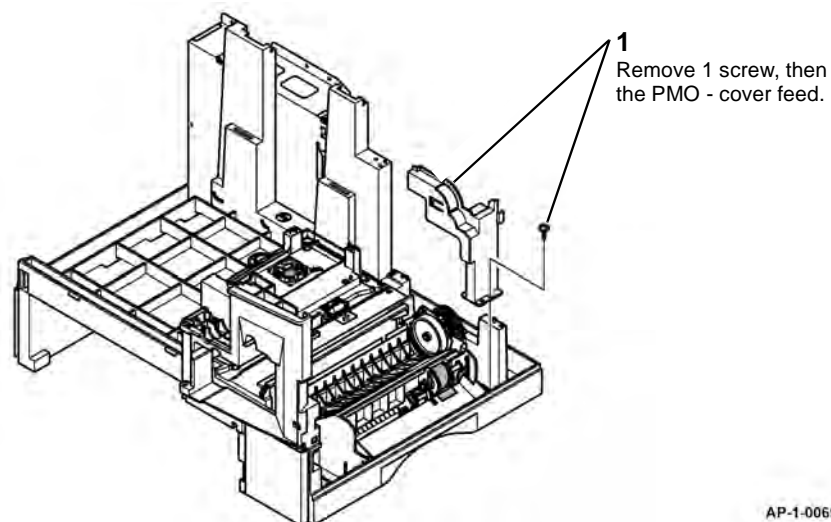

Figure 2 PMO - cover feed removal
3. Remove the PMO - cover feed, Figure 2.